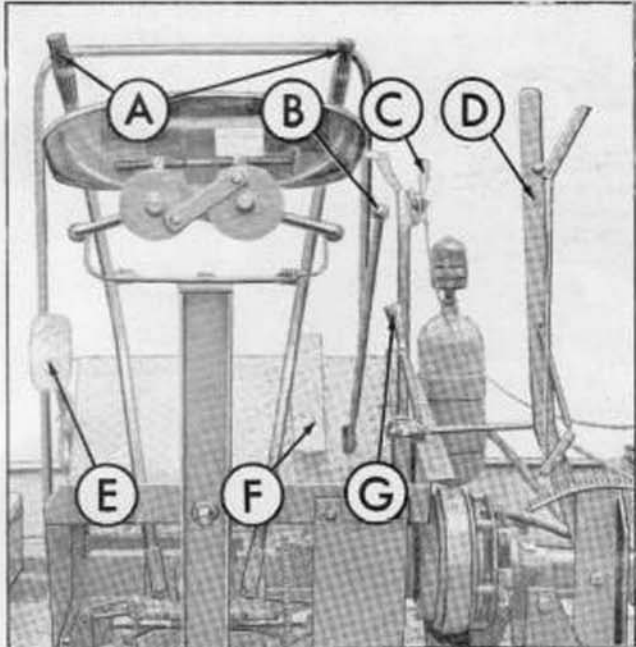

Figure 2
Controls: All operating controls on the Dearborn Self-Propelled Windrower are located within easy reach of the operator. The controls are shown in Figure 2 and the function of each is outlined below.
control lever (D), Figure 2,